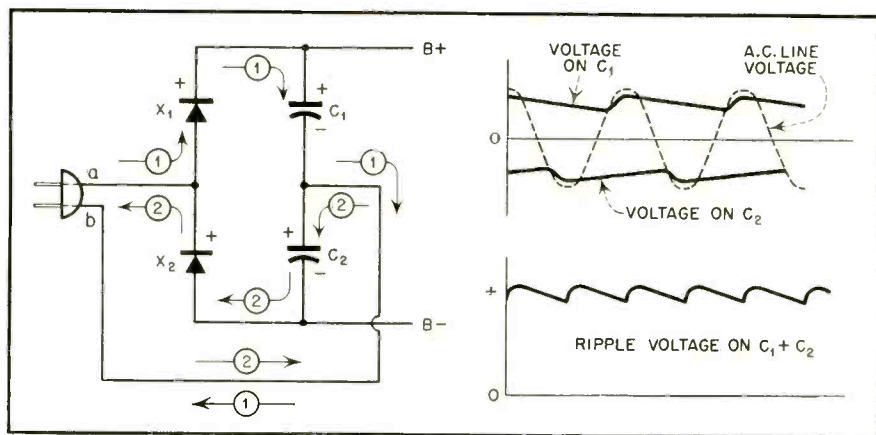

Fig. 2. Conventional full-wave voltage doubling circuit
*Figure 2* shows a conventional full-wave voltage doubling circuit as used in some of our receivers. Its operation is as follows: When the instantaneous line voltage is such that point "a" is positive with respect to the other side
of the line point "b", current will flow as shown by the arrow 1. This current flow through rectifier  $X_1$  charges capacitor  $C_1$  to near peak value. No current flows through  $X_2$  or into capacitor  $C_2$  during this half half cycle. During the next half cycle, point "b" becomes instantaneously positive in respect to point "a" and causes current to flow through  $X_2$  charging capacitor  $C_2$  as shown by the arrow 2. Assuming that  $C_1$  does not discharge when  $C_2$  is charging, at the end of a full cycle the voltages across  $C_1$  and  $C_2$  would add to give approximately twice the peak voltage of the input rms voltage. The charging characteristic is shown in *Fig. 2-C* with the cumulative voltage of capacitor  $C_1$  and  $C_2$  shown in *Figure 2-C*. It will be noted that the ripple voltage frequency (120 cps) is twice the line voltage frequency which gives this circuit its full-wave characteristics.
G-E TV receivers. The advantage of this circuit over that shown in *Fig. 2*, is that one side of the line becomes the B- of the power supply. Its operation is as follows: Assuming that the instantaneous line voltage is such that point "a" is positive in respect to point "b", then current will flow through  $X_1$  and charges capacitor  $C_1$  with a near peak voltage with polarity as shown. The current flow for this half cycle is shown by the arrow 1. During the next half cycle as point "b" becomes positive in respect to point "a", the charge on capacitor  $C_1$  will be added to that of the line potential and will cause current to flow through rectifier  $X_2$  as shown by the arrow 2. This will cause the capacitor  $C_2$  to charge to a value equivalent to that of the line plus that across  $C_1$ . This value will be near to twice the peak line voltage. Since capacitor  $C_2$  receives its charge at a 60 cycle rate, it is referred to as a half-wave rectifier circuit.
60 cycle ripple requires more filtering than the circuit shown in Fig. 2. It will be noted that the filter capacitors in series across the output provide a means of obtaining voltage division to furnish the lower voltage needed by the screen circuits. A resistor of 5 ohms is placed in series with the line voltage supply to the rectifiers in order to limit the peak current.